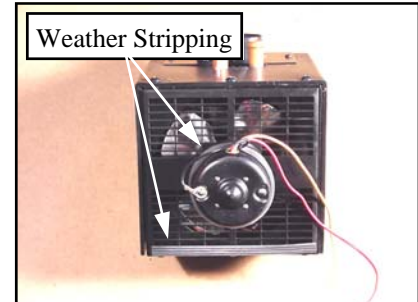
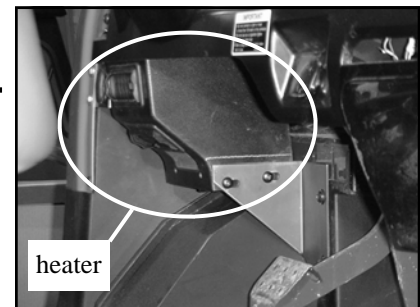

Figure 1
Figure 2
- 1.2 (See figures 1 and 2). Install the supplied weather stripping around the motor and along the rear bottom edge of the heater. If equipped, remove the plugs from the copper tubes on the top of the heater. Lastly, remove and retain the two Phillips head screws from the bottom right side of the heater as shown in Figure 2.
- 2.1 (See figure 2). Position the heater under the dashboard on the driver's side by resting the motor on the top of the fender well and tipping the front up under the dash. **NOTE: It may be necessary to pull the bottom of the dash board out to clear while positioning the heater.** The lip of the dashboard will hold the heater in position while installing the mounting bracket with the allen head screws removed in step 1.4, and the Phillips head screws removed in step 1.2.